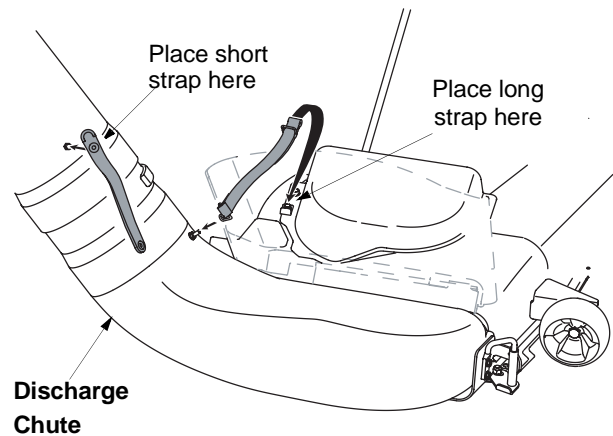

Figure 9
- Attach the longer of the three retainer straps on the discharge chute to the retainer clip on the deck. Refer to Figure 9.
- Secure by placing the ends of the two short retainer straps on the discharge chute over the pins on the chute tube. See Figure 9.